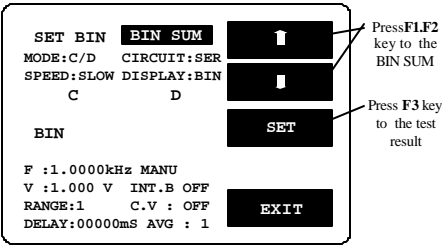

Figure 8-24
- Press F1/F2 key to select the white inverted characters “BIN.SUM” (Figure 8-24)